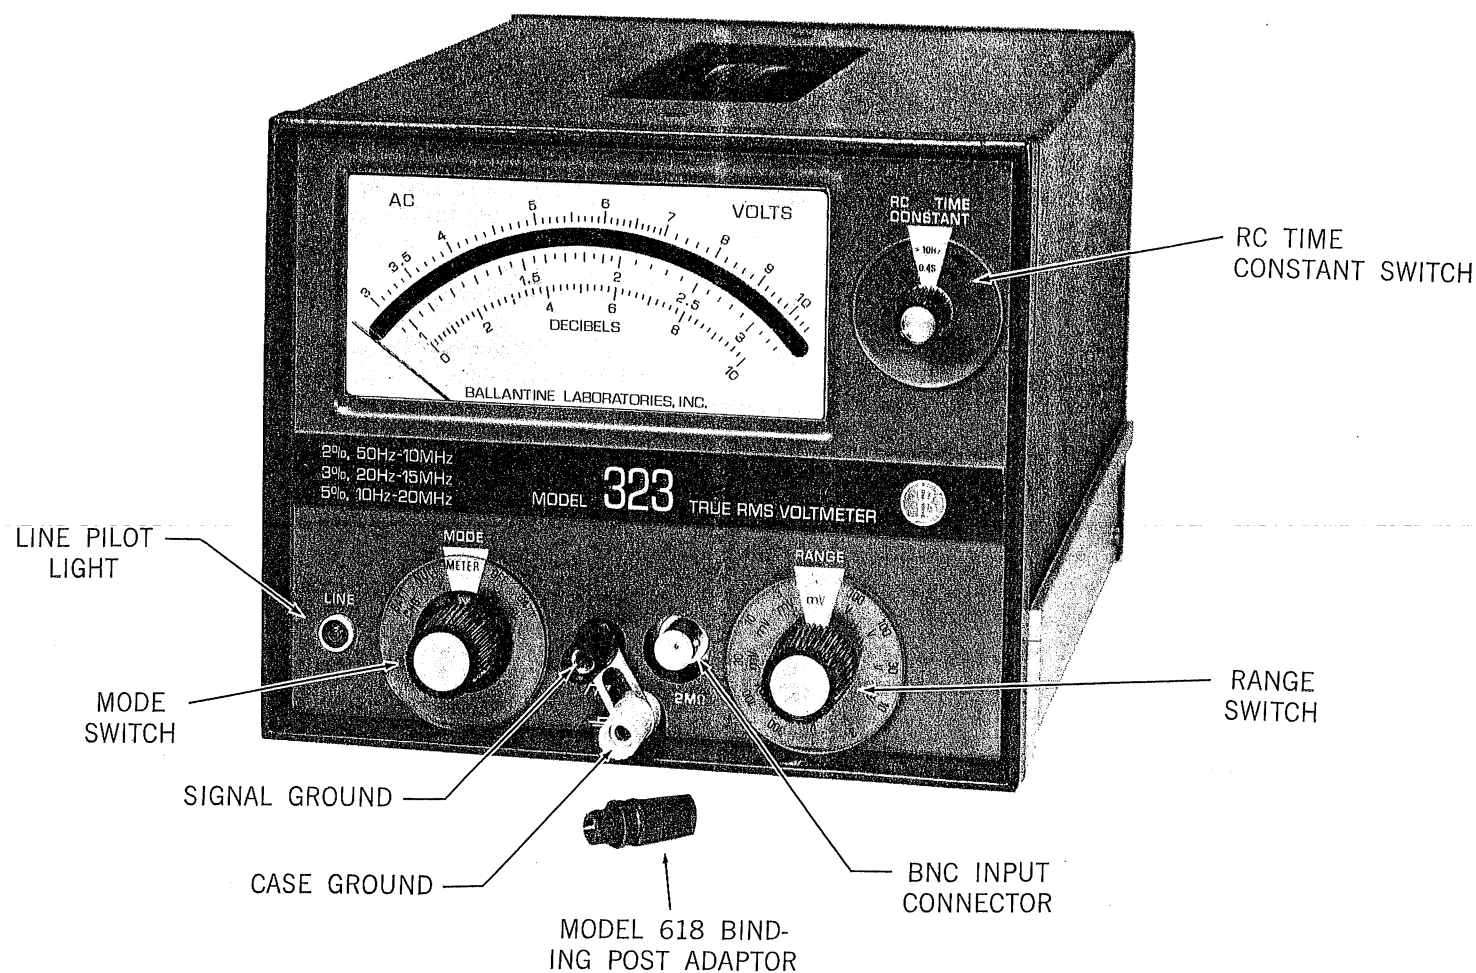

Fig. 3. Location of Controls — Models 323, 323-01
2.1 Function of Controls (See Fig. 3)